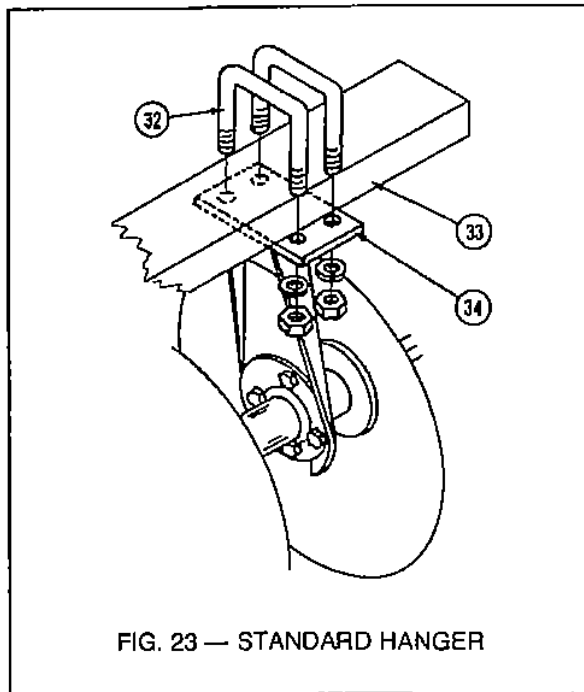

FIG. 23 — STANDARD HANGER
11. Standard Bearing Hangers: (See Fig. 23)